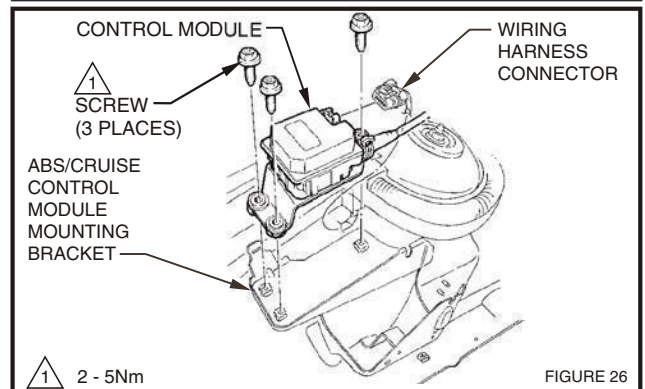

FIGURE 26
60. Install stepper motor to mounting bracket using 3 screws supplied and tighten(2 - 5Nm), refer fig. 26
61. Attach connector from patch harness or existing harness to stepper motor, refer fig.26.